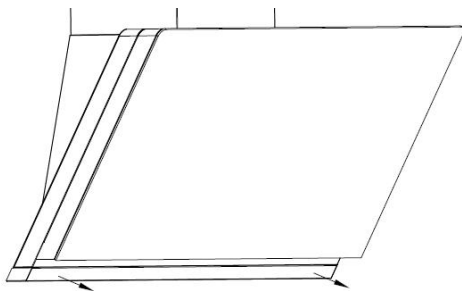

Fig.3
Cleaning the Oil Collector Cup (Fig. 3 & Fig. 3. 1)
- Hold both sides of the oil collector in a horizontal position and slowly slide the oil collector from the unit. As oil may be present in the oil collector hold the oil collector flat when removing it out of the housing. (Fig. 3 & Fig. 3. 1)